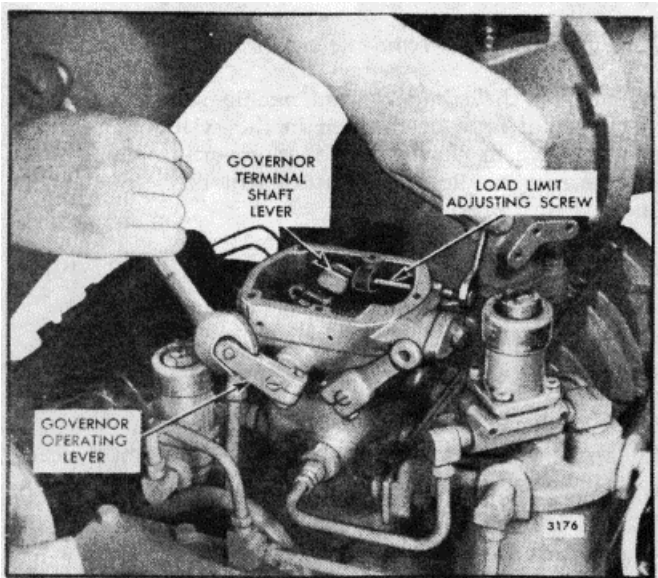

Fig. 18. - Adjusting Load Limit Screw
1. With the governor cover off and the load limit screw lock nut loosened, place and retain the governor operating lever in the full-fuel position as shown in Fig. 18.